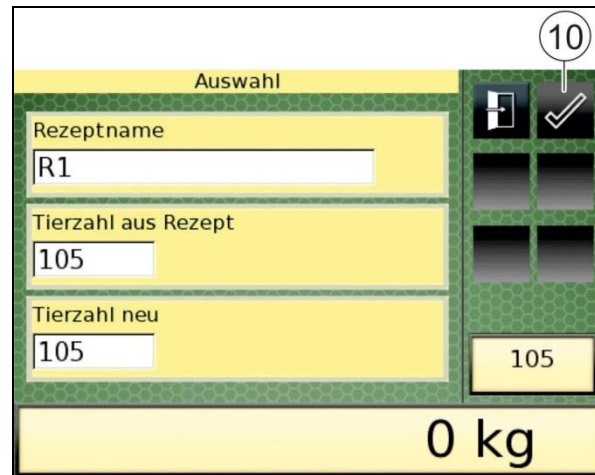
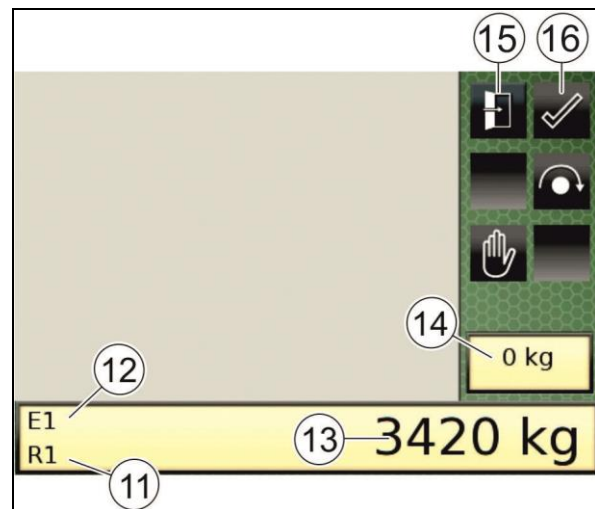

Fig. 218
Fig. 219
- Instead of the camera picture, the terminal displays an overview of the selected recipe (Fig. 218) including:
- 7. Press the "Confirm" key (10) to confirm your entry.
- The discharging mode is started. The "Discharging mode" display appears (Fig. 219).